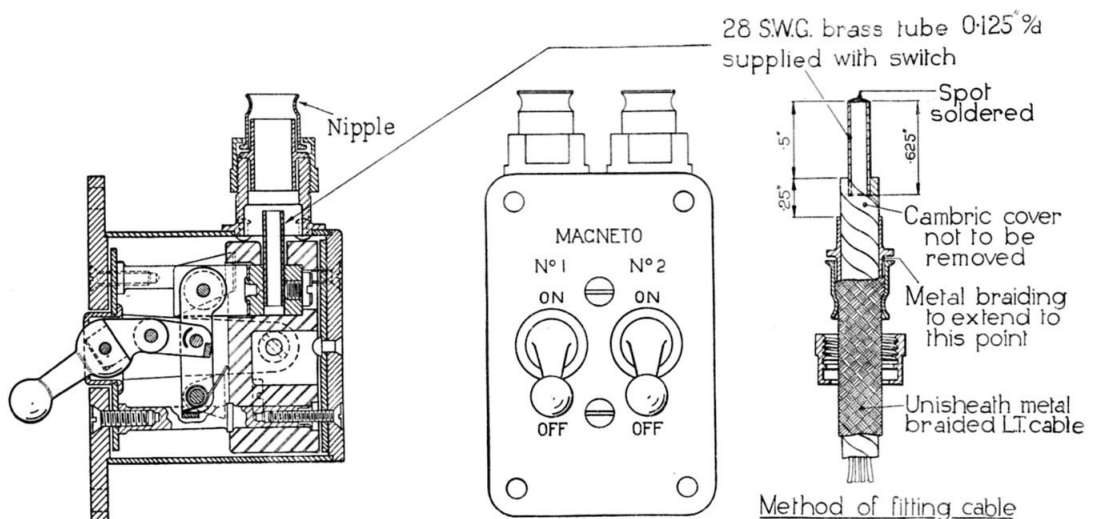

Fig. 1. Ignition switchbox, 2-way, Type A
3. The 2-way ignition switchbox, Type A (*fig. 1*) consists of two ignition switches, with the ordinary toggle mechanism, mounted side by side in a screening metal box. The mounting plate, cover, and base plate are of aluminium, and with the duralumin nipple at the cable entry form the electrostatic screen. The terminals are mounted in moulded insulating material and one is connected to the outer contact of each switch. The inner contacts, which are made in one piece, are
4. The switches are intended to be wired with Unisheath 7 metal-braided cable, and a special union is provided to ensure continuity between the braiding of the cable and the screen of the switch. The construction of this union and the method of fitting the cable are shown in *fig. 1*. The cambric tape lapping should extend to the end of the rubber covering, and the metal braiding should be securely gripped between the two sleeves.